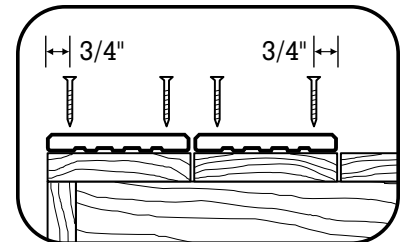

Fig. 17
- **TimberTopper should not overlap the edges of the underlying planks (Fig. 17).**
- Fasten every 16" with two 1-1/4" stainless steel or galvanized deck screws 3/4" from the outside edge of the TimberTopper (Fig. 17).